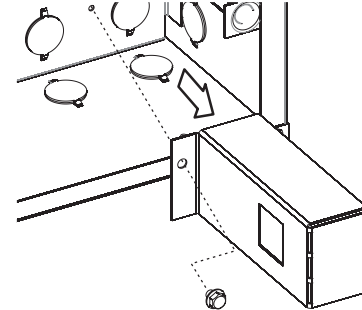

Figure 43
8. Remove junction box on right by removing single screw. See Figure 43.